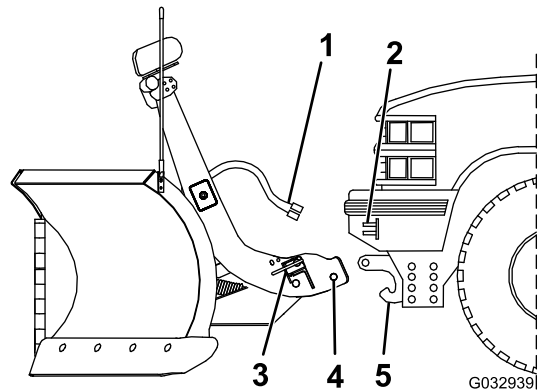

Figure 19
2. Line up the vehicle with the snowplow and slowly drive forward until the lower pin contacts the push-beam pin receiver (Figure 19).
- Remove the electrical-plug dust-covers and connect the plow wire harness to the vehicle wire harness (Figure 19).